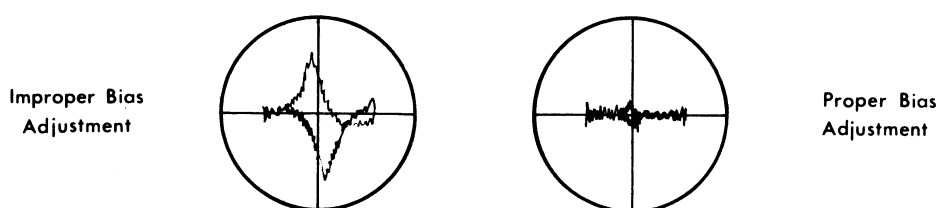

Figure 2
4. Using the Harmonic Distortion Analyzer, looking at the distortion of the amplifier properly nulled, make the adjustment as follows: Adjust bias for class "AB" operation by turning the bias potentiometer VR702a so that the crossover is at the point of being eliminated. NOTE: Class "A" operation (continued CW rotation) causes the output transistors to draw excessive current and overheat. Refer to Figure 2 below.